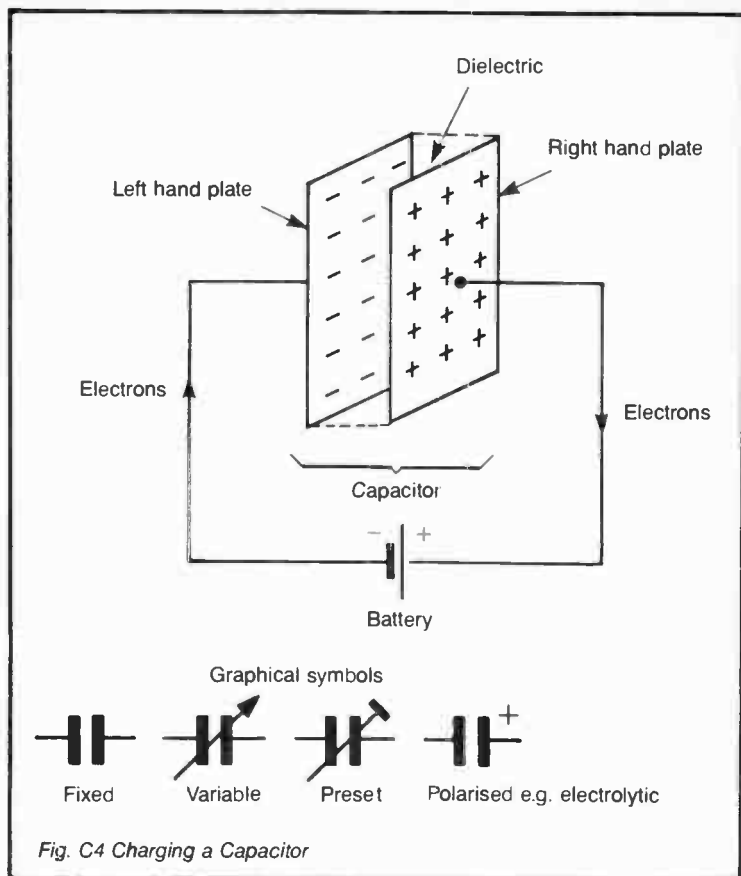

Fig. C4 Charging a Capacitor
**CAPACITOR** A device having the ability to store electric charge, basically two conductors (often in the shape of flat plates) separated by an insulator (the *dielectric*). The elements of a 2-plate capacitor are shown in Figure C4 which also includes the various graphical symbols used. When a battery (or other generator) is connected as shown, electrons are forced into the left hand plate by the negative